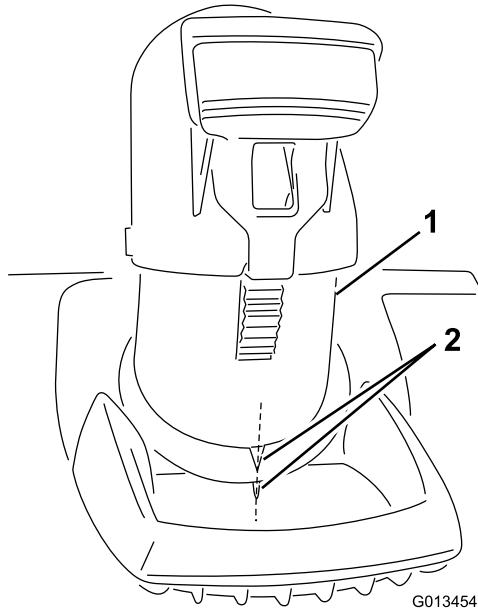

Figure 3
**NOTICE!** Align the arrow on the discharge chute with the arrow on the housing (Figure 3).